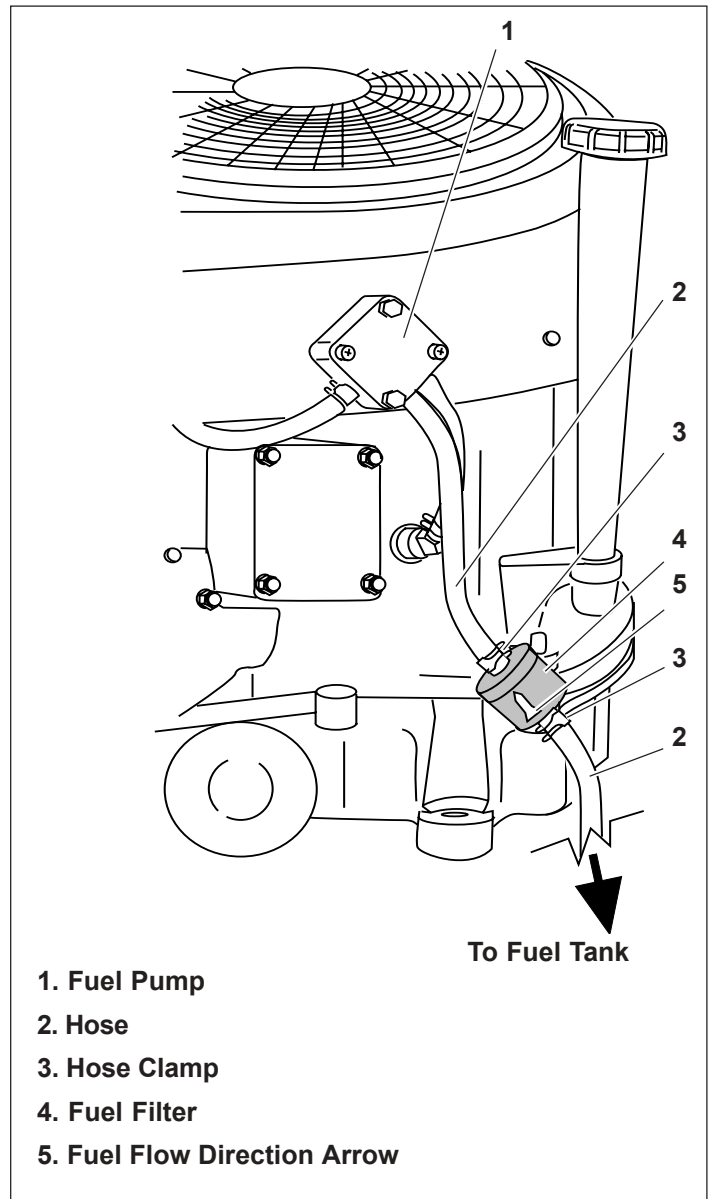

Figure 13. Replacing Fuel Filter
1. Remove hose clamp on hose. See Figure 13.